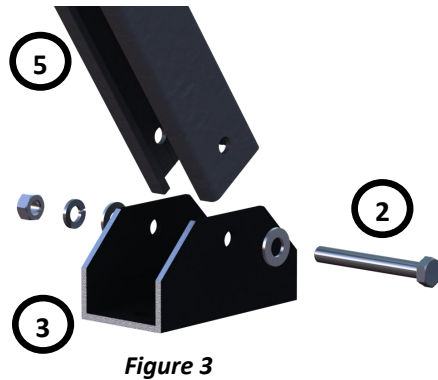

Figure 3
3. Position the Rear Telescoping Leg Assembly on the Rear Mounting Foot with the opening of the channel facing the front foot. Insert Fastener Assembly thru the Rear Mounting Foot and the Rear Telescoping Leg Assembly. As shown in *Figure 3*.